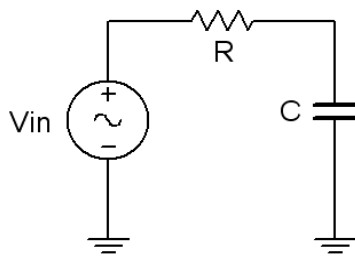

Figure 6.1
1. Using Figure 6.1 with  $V_{in}=2$  V p-p sine at 10 kHz,  $R=1$  k $\Omega$ , and  $C=10$  nF, determine the theoretical capacitive reactance and circuit impedance, and record the results in Table 6.1 (the experimental portion of this table will be filled out in step 5). Using the voltage divider rule, compute the resistor and capacitor voltages and record them in Table 6.2.
2. Build the circuit of Figure 6.1 using  $R=1$  k $\Omega$ , and  $C=10$  nF. Place one probe across the generator and another across the capacitor. Set the generator to a 10 kHz sine wave and 2 V p-p. Make sure that the *Bandwidth Limit* of the oscilloscope is engaged for both channels. This will reduce the signal noise and make for more accurate readings. Also, consider using *Averaging* for the acquisition mode, particularly to clean up signals derived using the *Math* function.
3. In general, how would the phasor diagram of Figure 6.1 change if the frequency was raised?